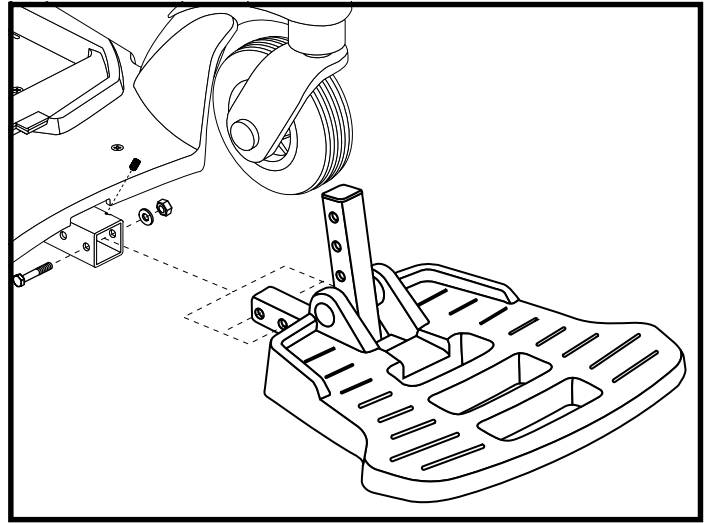

Figure 14. Foot Platform Depth
1. Remove the hardware from the footplatform bracket. See figure 14.